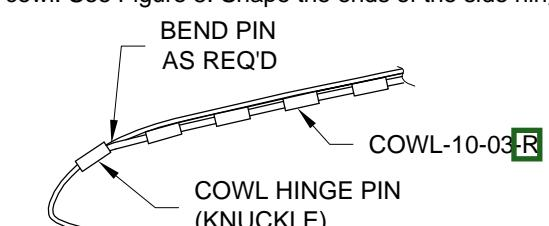

FIGURE 5: KNUCKLE BEND
Step 8: Trim the COWL HINGE PIN-LEFT and R Side Hinge Pins until the aft edge of the knuckles lines up with the pin-cowl intersect point. Bend the knuckles parallel with the side of the bottom cowl. See Figure 5. Shape the ends of the side hinge pins per Page 47-7, Step 5.